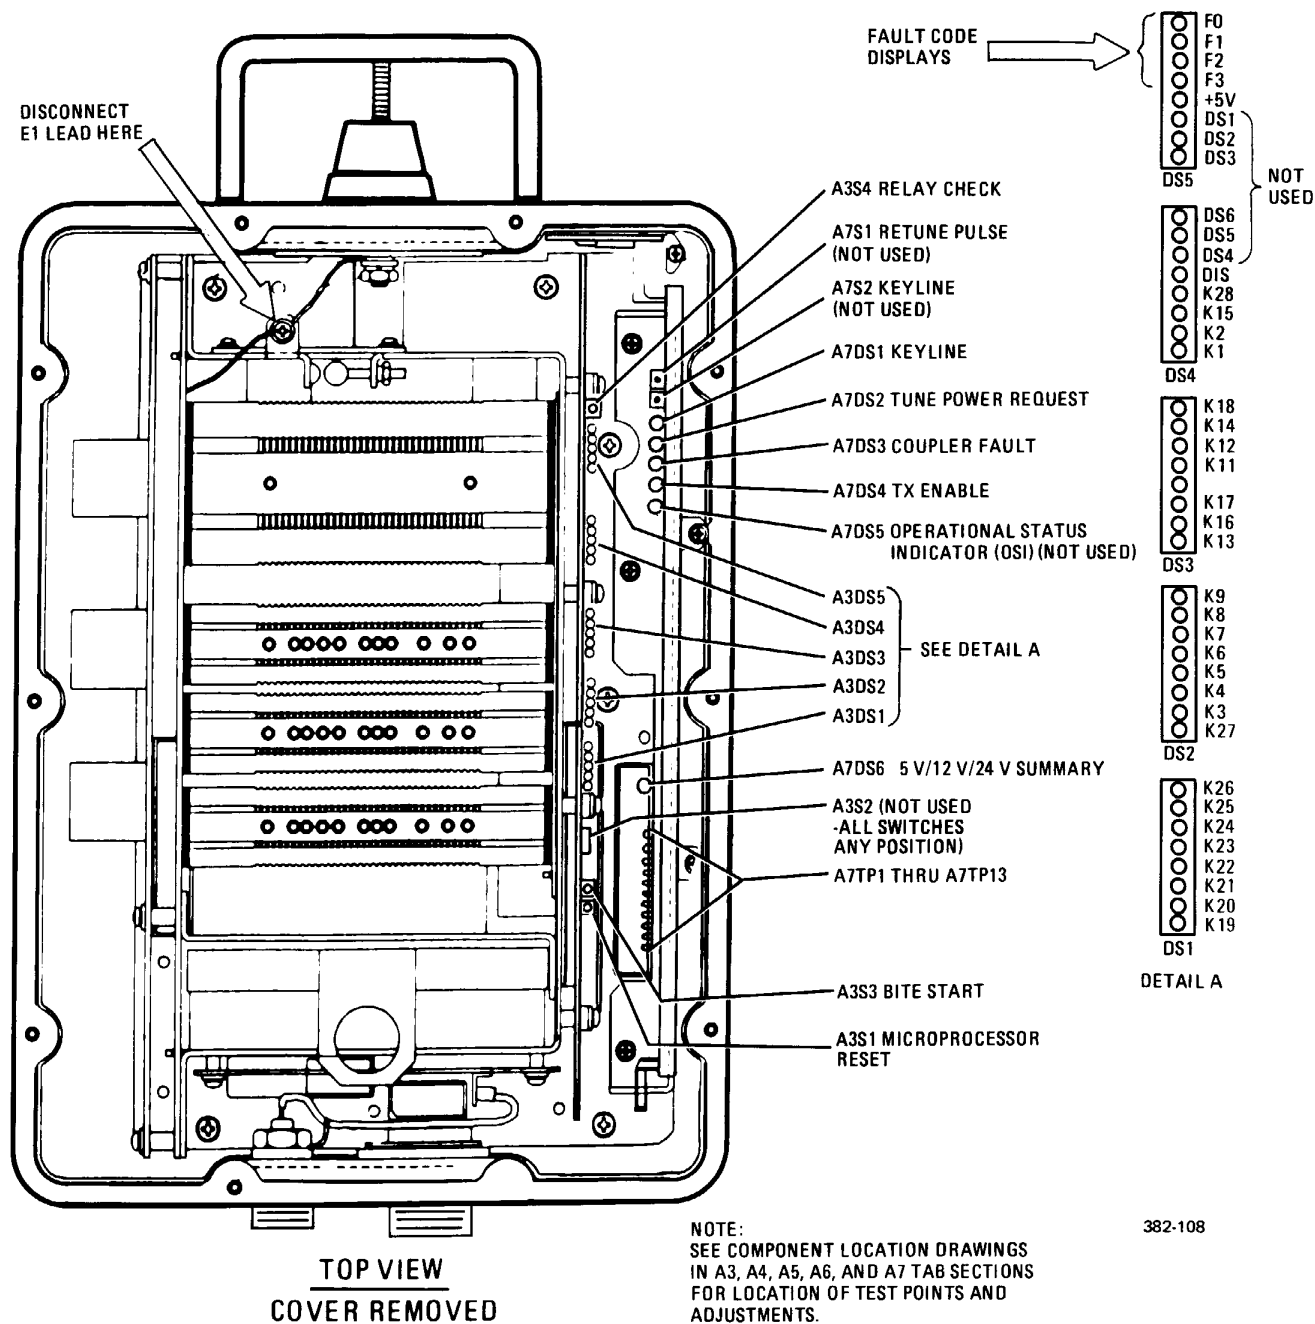

Figure 5-1. Coupler Indicator Identification
- 4) Read the fault code indicated on the control board LEDs F3-F0. Refer to figure 5-1 for the location of the LEDs. LEDs that are on are recorded as a 1, and LEDs that are off are recorded as a 0.
- b. Refer to figure 5-1. Locate 5 V/12 V/24 V indicator A7DS6. If A7DS6 is on, proceed to step j.
- c. Refer to figure 5-1. Locate + 5 V indicator A3DS1-1. If A3DS1-1 is on, proceed to step i.
- h. Press and hold S4 on the A3 Control PWB. (Refer to figure 5-1 for A3S4 location.)